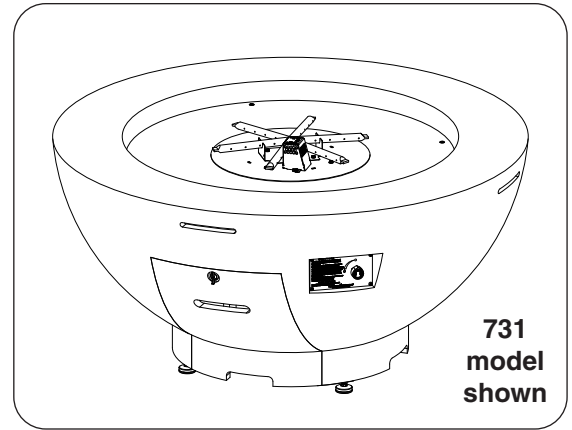

Fig. 27-1 Place unit
1. **CAREFULLY** place the base in an appropriate location (see Fig. 27-1, and refer back to the LOCATION section if needed).